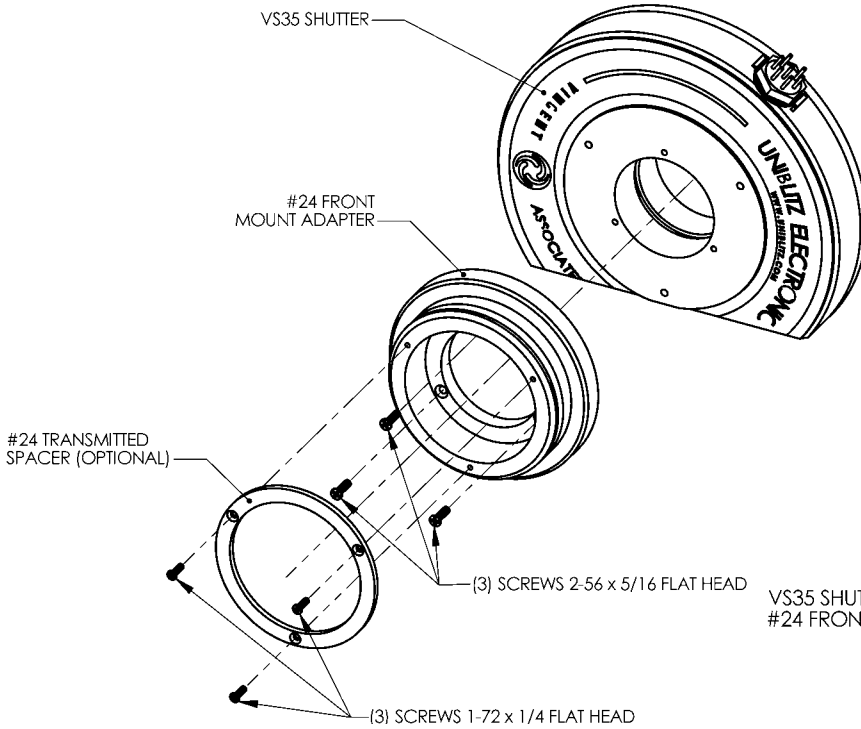

Figure 5
Using (3) 2-56 flat head screws, attach #24 front mount to the front of the shutter housing. (See Figure 5)
Using (3) 1-72 flat head screws, attach spacer to the outside surface of #24 front mount. (See Figure 5)